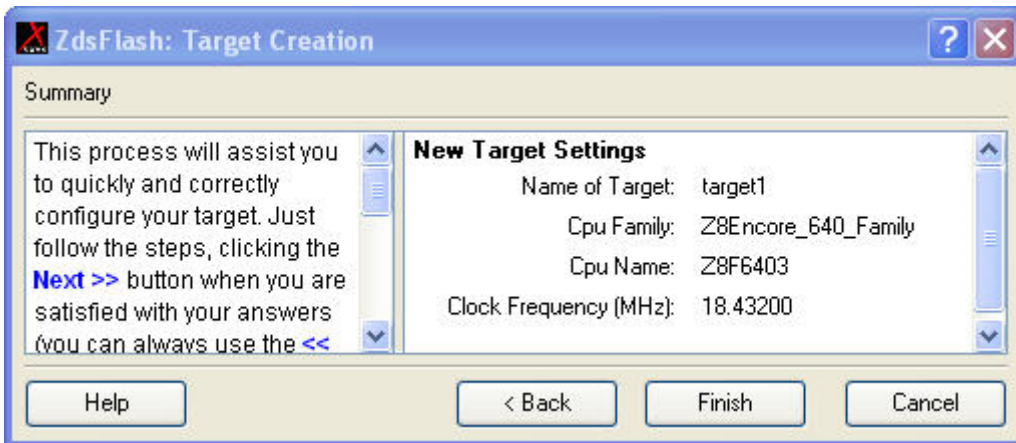

Figure 87. Target Summary Window for Z8 Encore!®
7. Click **Next**, the **Target Summary** window (see Figure 87) displays the summary of all your selections made during the creation of a target device.